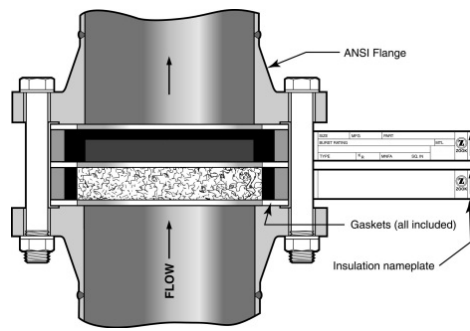

Figure 5
2) Rupture disks with heat shields – Figure 5